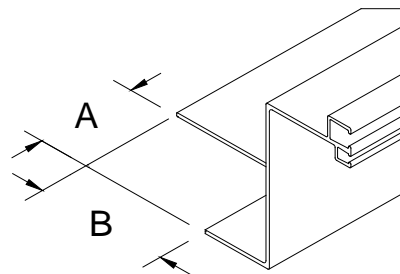

Figure 9.1 - "Z" Shaped Lintel Seal Cutout
2. Make the "A" & "B" cutouts to the ends of the extrusion(s) according to the dimensions on the shop sheet to allow for the guide setbacks and pack-off. (See **Figure 9.1**)